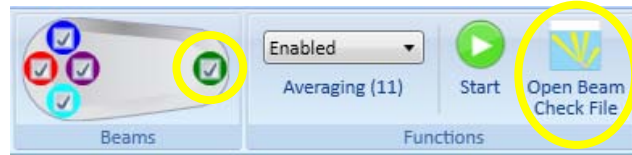

Figure 50. Opening a Beam Check File
- To view a previously recorded beam check file, select stop to end sampling and then select **Open beam check file** to view the data (Figure 50).